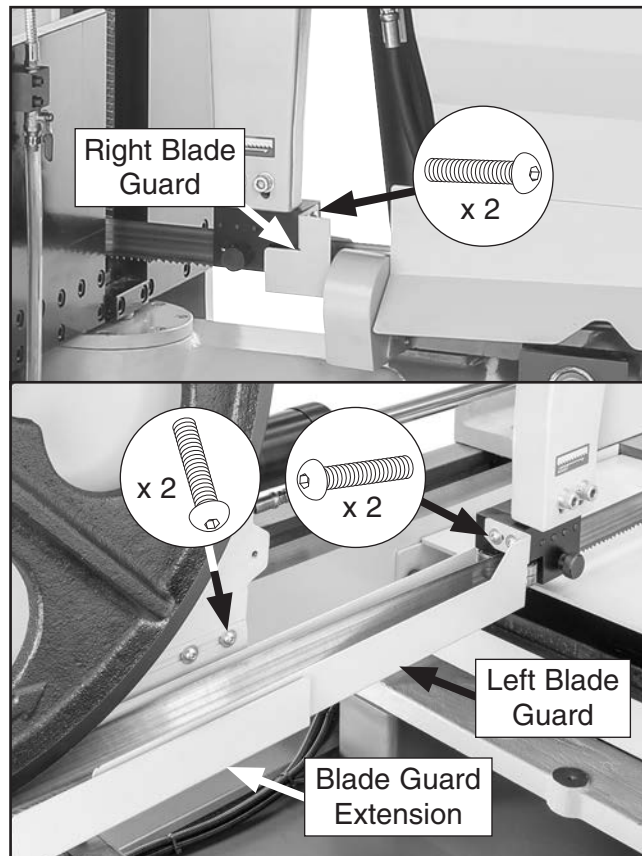

Figure 97. Location of blade guards and blade guard extension.
4. Remove both blade guards and blade guard extension by removing (6) button head cap screws and flat washers (see **Figure 97**).